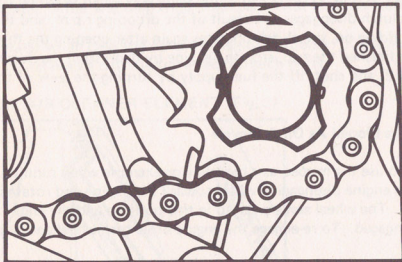

Fig. 8 — Disengaging the engine
- j) Engine drive disengaging nut (Fig. 8)
If you wish to use the moped as a bicycle (for example when running out of fuel), depress engine disengaging wheel toward the engine and rotate it clockwise (Fig. 8). The wheel stays engaged in this position and the engine drive remains disengaged. To re-engage the engine drive turn wheel anticlockwise.